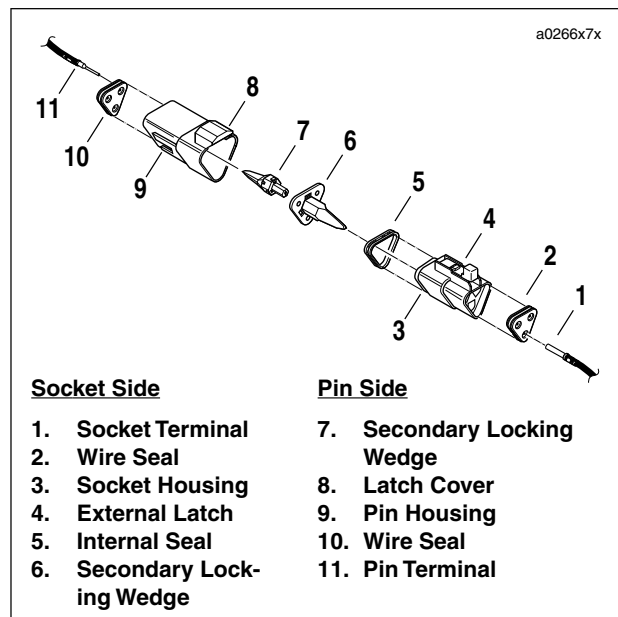

Figure B-1. 3-Pin Connector
1. See Figure B-1. Remove the secondary locking wedge (6). Insert the blade of a small screwdriver between the socket housing and locking wedge in—line with the groove (in—line with the pin holes if the groove is absent). Turn the screwdriver 90° to pop the wedge up.
2. Gently depress terminal latches inside socket housing (3) and back out socket terminals (1) through holes in rear wire seal (2).
3. Fit rear wire seal (2) into back of socket housing, if removed. Grasp socket terminal approximately 1.0 in. (25.4 mm) behind the contact barrel. Gently push sockets through holes in wire seal into their respective chambers. Feed socket into chamber until it “clicks” in place. Verify that socket will not back out of chamber; a slight tug on the wire will confirm that it is properly locked in place.
4. Install internal seal (5) on lip of socket housing, if removed. Insert tapered end of secondary locking wedge (6) into socket housing and press down until it snaps in place. The wedge fits into the center groove within the socket housing and holds the terminal latches tightly closed.
1. See Figure B-1. Remove the secondary locking wedge (7). Use the hooked end of a stiff piece of mechanic's wire or a needle nose pliers, whichever is most suitable.
2. Gently depress terminal latches inside pin housing (9) and back out pin terminals (11) through holes in wire seal (10).
3. Fit wire seal (10) into back of pin housing (9). Grasp crimped pin approximately 1.0 in. (25.4 mm) behind the contact barrel. Gently push pins through holes in wire seal into their respective locations. Feed pin into chamber until it “clicks” in place. Verify that pin will not back out of chamber; a slight tug on the wire will confirm that it is properly locked in place.
4. Insert tapered end of secondary locking wedge (7) into pin housing (9) and press down until it snaps in place. The wedge fits in the center groove within the pin housing and holds the terminal latches tightly closed.